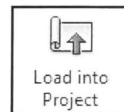

Fig. 06.26. *Load into Project*
- Klik *Load into Project* (Fig. 06.26).